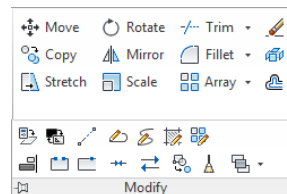

FIGURE 1.10: The expanded Modify panel
- Click the Modify panel's title bar to expand the panel and expose all of the Modify tools (see Figure 1.10).